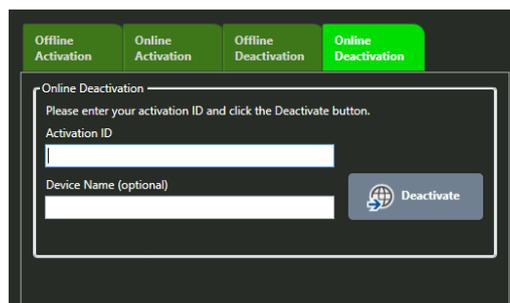

Figure 14. *Online deactivation* tab.
1. *Select* -> **Online Deactivation** tab (Figure 14).